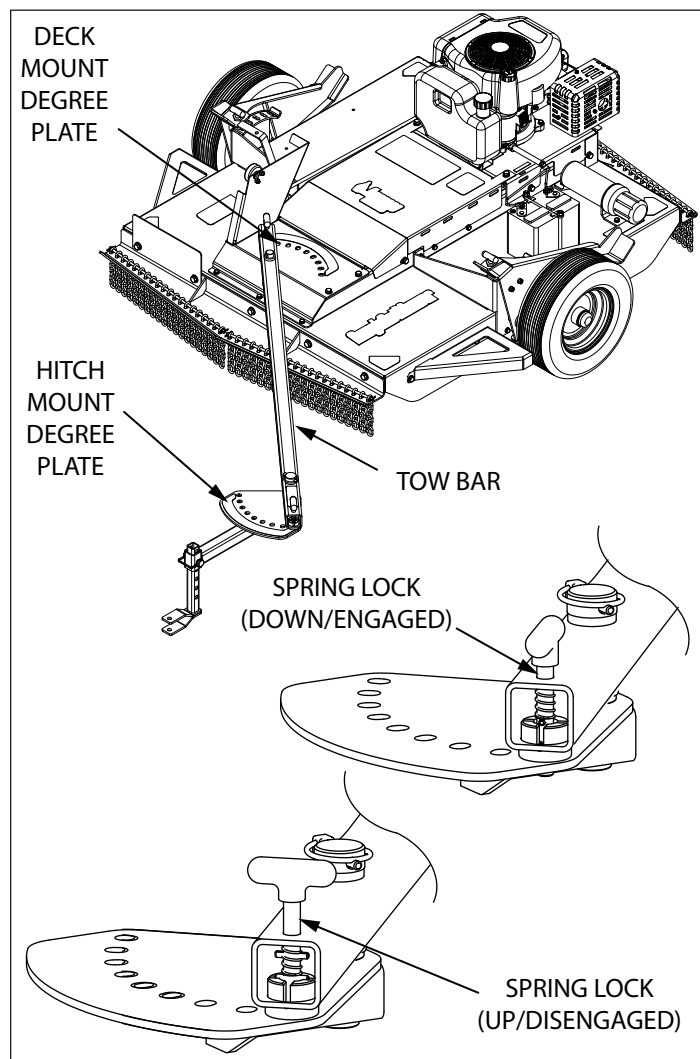

FIGURE 7: TOW BAR OFFSET ADJUSTMENT
- Lift the spring loaded tow bar locking pin knob and turn 90 degrees to lock in the up/disengaged position. **SEE FIGURE 7**